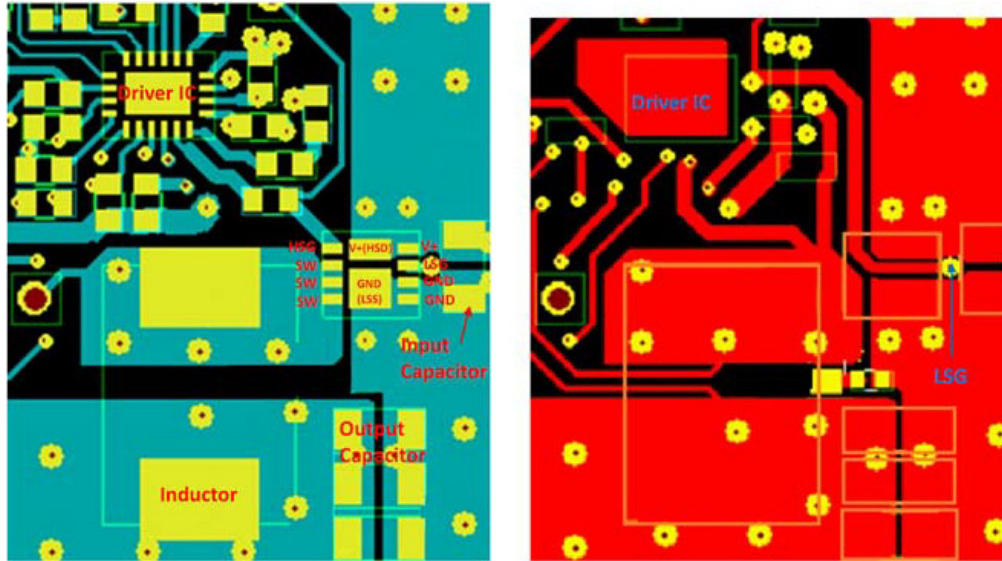

Figure 31. Top/Component (Green) View and Bottom (Red) PCB View
Figure 31 shows an example of a well designed layout. The discussion that follows summarizes the key features of this layout.
transients. The trace should be short and wide to enable a low resistance path and to minimize the size of the noise region. Care should be taken to minimize coupling of this trace to adjacent traces. The layout in Figure 31 shows a good example of this short, wide path.
- "The Power Clip has very good Junction–PCB heat transfer from all power pins. It has much better heat transfer Junction–GND (LSS) than traditional dual FET packages. In most cases, board ground will be the most effective heat transfer path on the PCB. Use a large copper area between GND / GND(LSS) PAD pins and board ground. To ensure the best thermal and electrical connection to ground, we recommend using multiple vias to interconnect ground plane layers as shown in Figure 31.